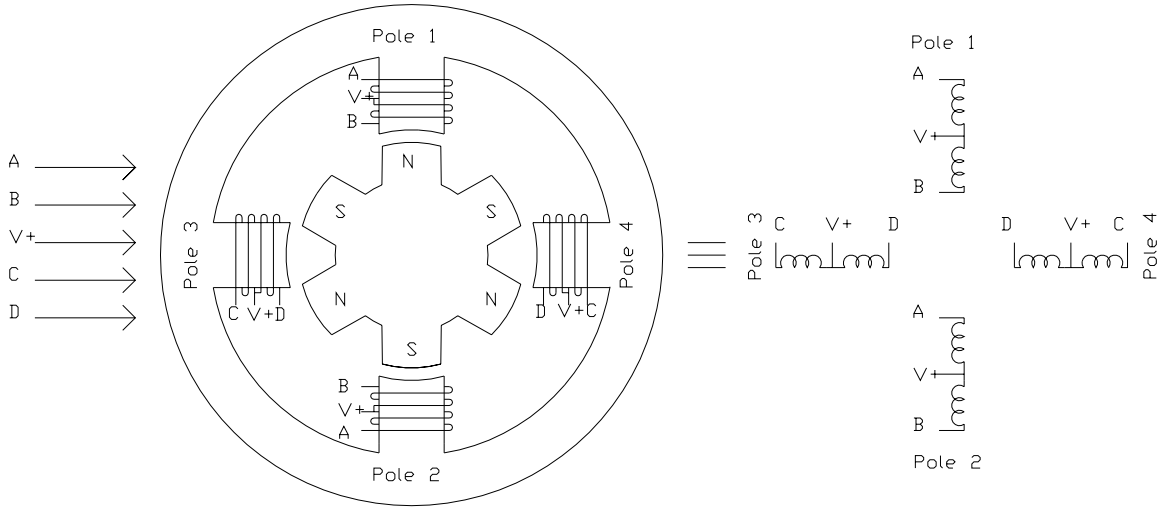
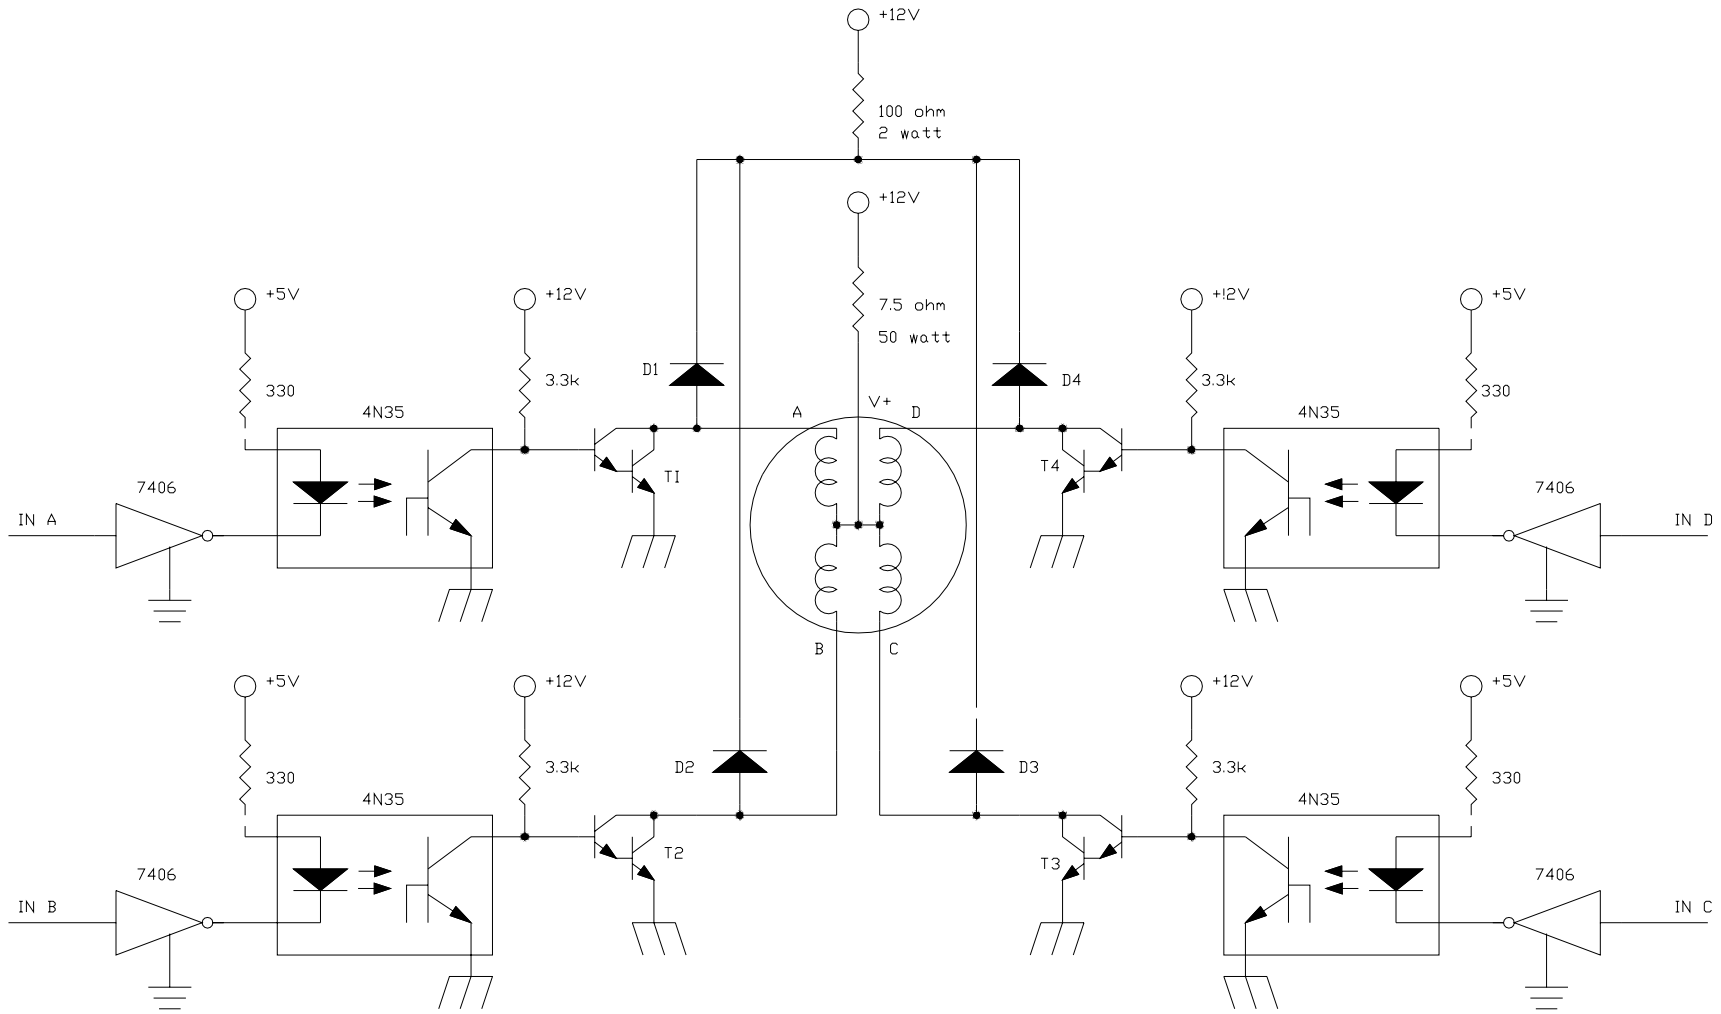

Figure 6.1 Construction of a bifilar PM stepper motor
Figure 6.3 Stepper motor drive circuit
A stepper motor is an electric machine that rotates in discrete angular increments or steps. It is operated by applying pulses of a specific frequency to the input of the motor. Each pulse applied to the motor causes its shaft to move a certain angle of rotation, called a *stepping angle*. Figure 6.1 shows a simplified construction of *bifilar permanent magnet* stepper motor. The rotor of the motor is made of a permanent magnet material and has six teeth equally spaced around the circumference of the rotor with alternating north (N) and south(S) magnet polarities. The stator has four poles, each of which has a center-tapped winding. The windings on opposing poles are connected together so that only five wires - A, B, C, D, and V+ - leave the motor. A winding is excited by sending a current into the V+ wire and out one of the other wires. The windings are wound in the stator teeth in such way so that the following results are obtained.
In the lab experiments, we will control the operation of a stepper motor directly from the DSP output port. For this purpose we need a drive circuit for the motor. The type of stepper motor used is very important in designing the drive circuit for the motor. Different type of stepper motor requires different drive circuit. In the laboratory experiment, we will use a bifilar permanent magnet type stepper motor, similar to the stepper motor in Figure 6.1, except that it has a stepping angle of 1.8 degree or 200 step/revolution. Other considerations in designing the drive circuit are the voltage and current required to energize the stator windings of the motor. The stepper motor we use in the lab requires a 4V voltage and 1A current for each phase winding. Figure 6.3 shows the stepper motor drive circuit we will use for the lab experiments.
In Figure 6.3, wires A, B, C, and D from the stepper motor are connected to the Darlington power transistor T1, T2, T3, and T4 which act as switches. The V+ wire is connected to the +12V power supply via a series resistor. When the power transistor is switched on, a circuit is completed and current flows through one of the windings.
The second problem created by the winding inductance occurs when a winding is switched off. Recall that when a circuit containing an inductive load is switched off, the collapsing field attempts to maintain the flow of current. If no path is provided for the current. Damaging voltage spikes will be generated across the switching devices. Therefore, freewheeling diodes (D1 to D4) must be included in the driver circuit. The freewheeling diode circuit used in Figure 6.3 includes a series resistor to increase the decay rate of the winding currents. If this resistor is not used, the maximum stepping rate will be limited by the time it takes the winding current to decay.